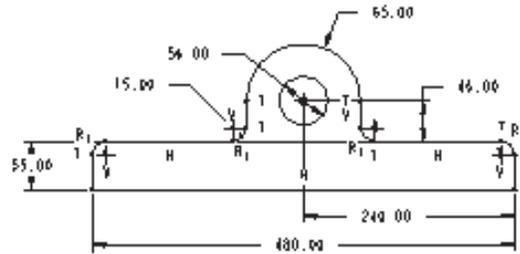

Figure 2-40 Sketch after regeneration
1. Choose the **Regenerate** option from the **SKETCHER** menu in the **Menu Manager**. The sketch is regenerated successfully, see Figure 2-40.